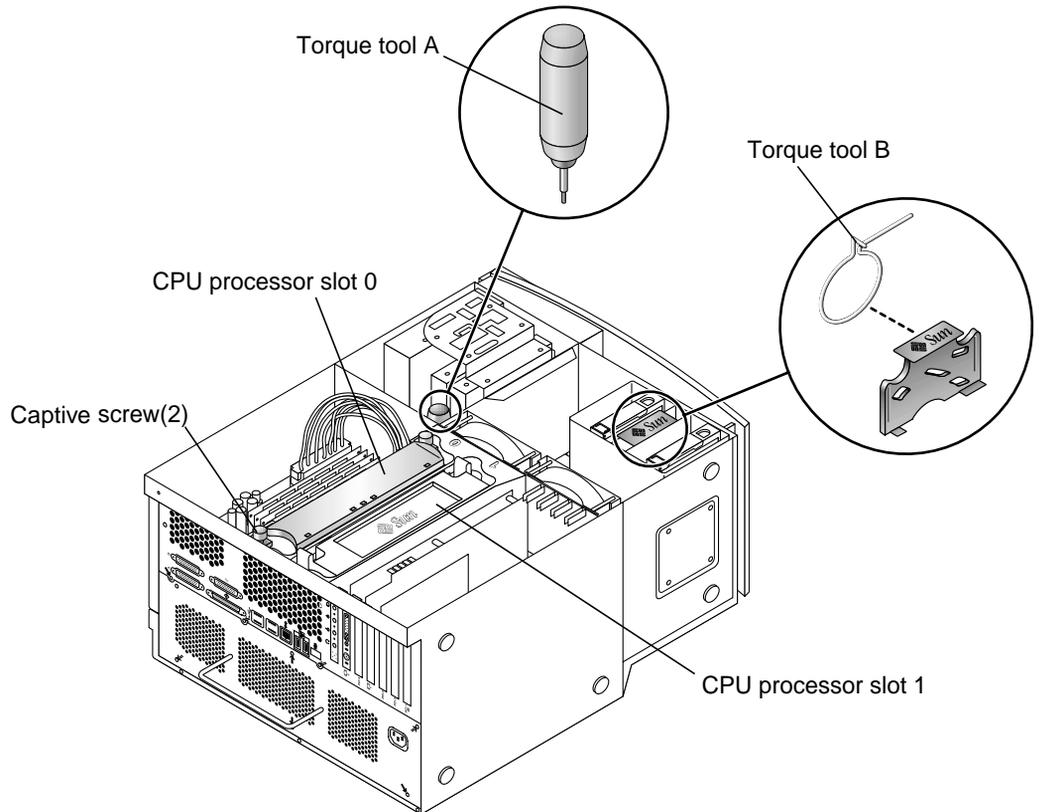

FIGURE 6 Location of CPU Processor Slot 0, Captive Screws, and Torque Tools
Caution – The slot positions of the two UltraSPARC III CPU modules are shown in FIGURE 6. The position shown in figure 6 as “CPU processor slot 0” is the required position for all workstations that contain only one CPU.
1. If necessary, place the workstation on its side on a work surface, open side facing up (see FIGURE 6).
Note – Sun manufacturing installs torque tool A or torque tool B in Sun Blade 1000 and Sun Blade 2000 workstations. The torque tools are located in different locations in the workstation (see FIGURE 6).
a. If you have torque tool A, perform steps 10-16 (see FIGURE 6)
b. If you have torque tool B, perform steps 5-9 and 14-16 (see FIGURE 6).